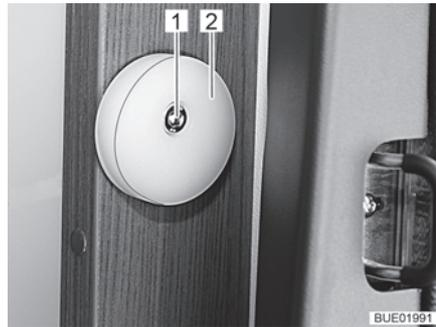

Fig. 119 Pull-down bed guide
- Release the screw (Fig. 119,1).
- Adjust the guide disc (Fig. 119,2).
- Tighten the screw (Fig. 119,1).